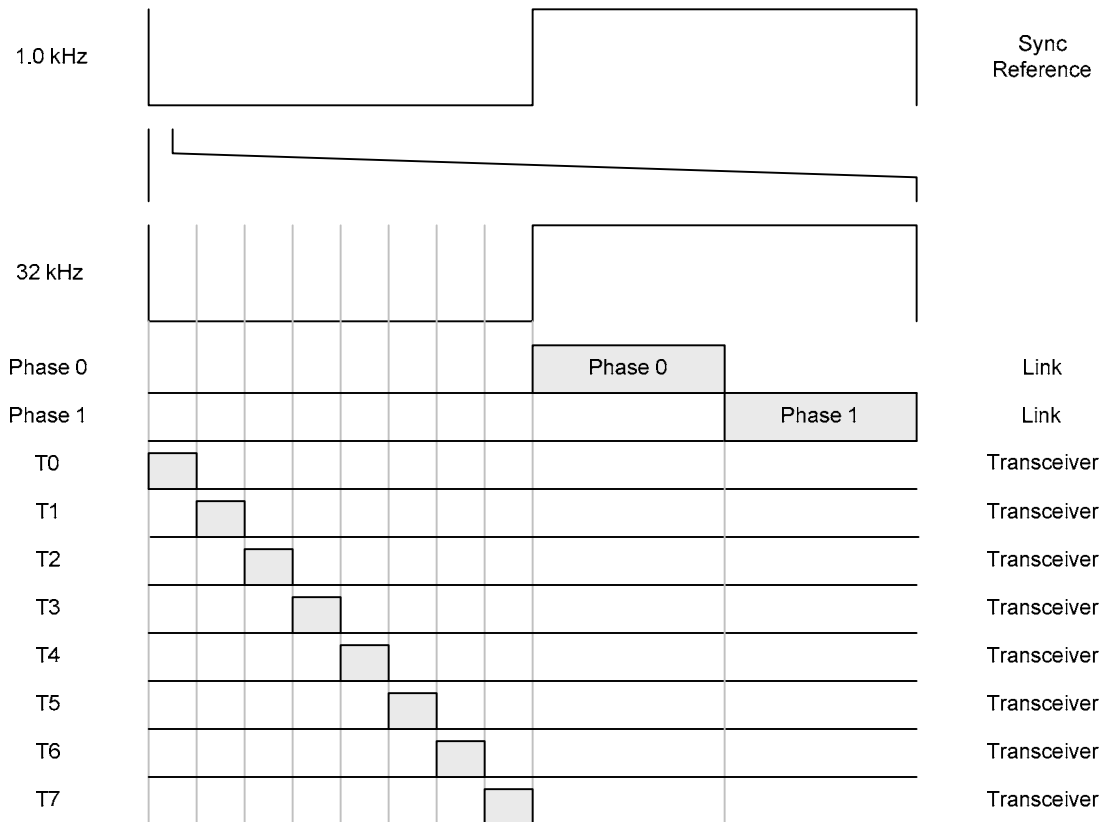

Figure 25 – Synchronization Plan
If MicroWave 330-33461 is to be synchronized to another MicroWave 330-33461 or Model 380 or Model 385 transceiver it must be in the Tethered configuration. In the synchronized configuration MicroWave 330-33461 supports two (2) time slots, Phase 0 and Phase 1. This will allow for synchronizing two (2) MicroWave 330-33461 links and up to eight (8) transceivers as shown in Figure 25. Two more links can be added if they are rotated 90° as explained in Section 4.2. *Note: Models 380 and 385 are not CE approved sensors.*